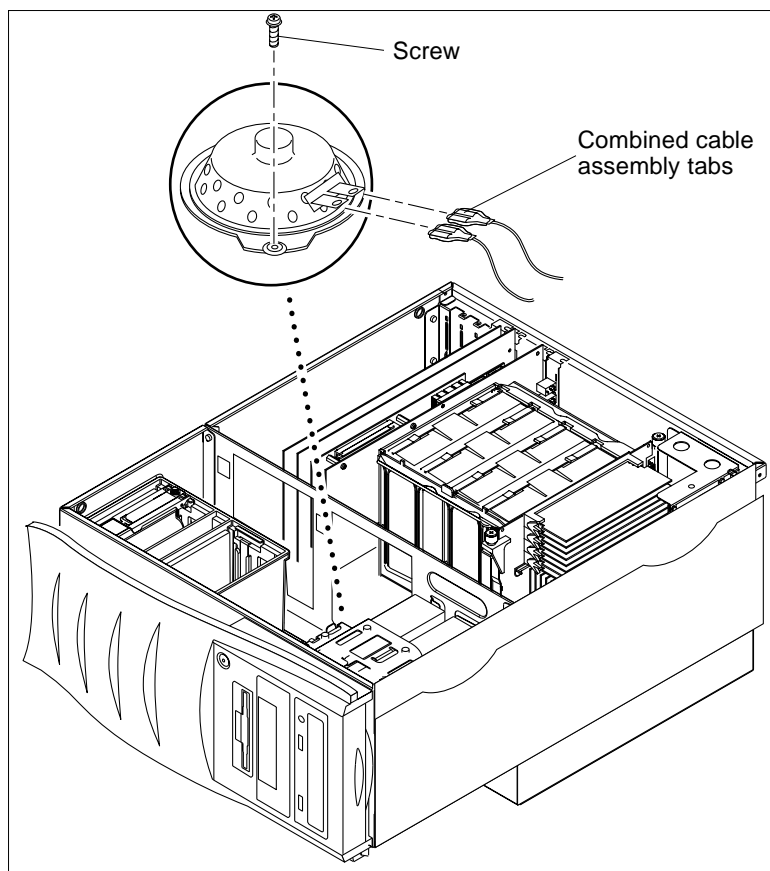

FIGURE 7-11 Removing and Replacing the Speaker Assembly
**5. Remove the speaker assembly as follows (FIGURE 7-11):**
1. Replace the speaker assembly as follows (FIGURE 7-11):